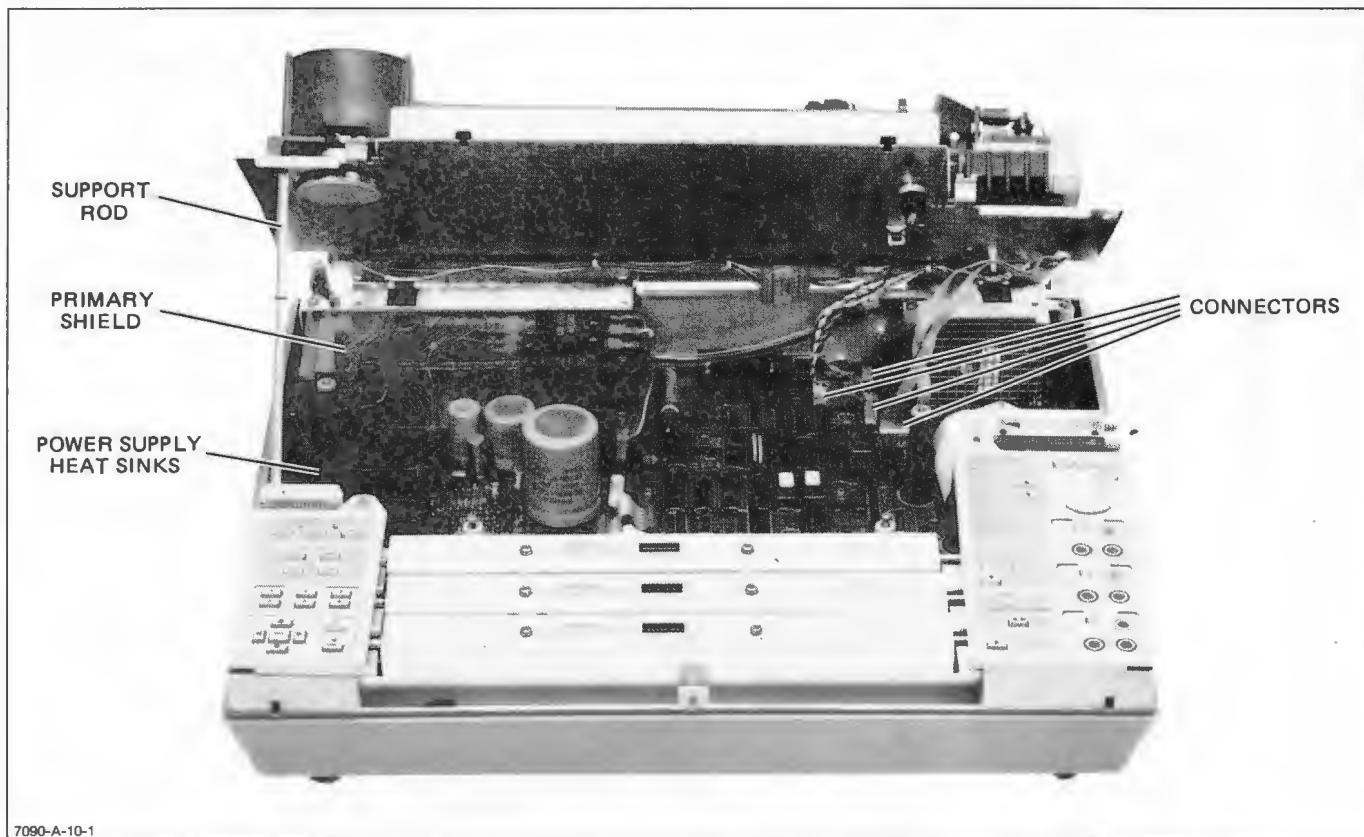

Figure 2-4. Connector Locations
Do not touch the heatsinks mounted on the power supply PCA. See Figure 2-4. They become very hot when the HP 7090 has been powered on for a long time.
- h. Disconnect indicated connectors. Note which plug goes to which jack. See Figure 2-4.